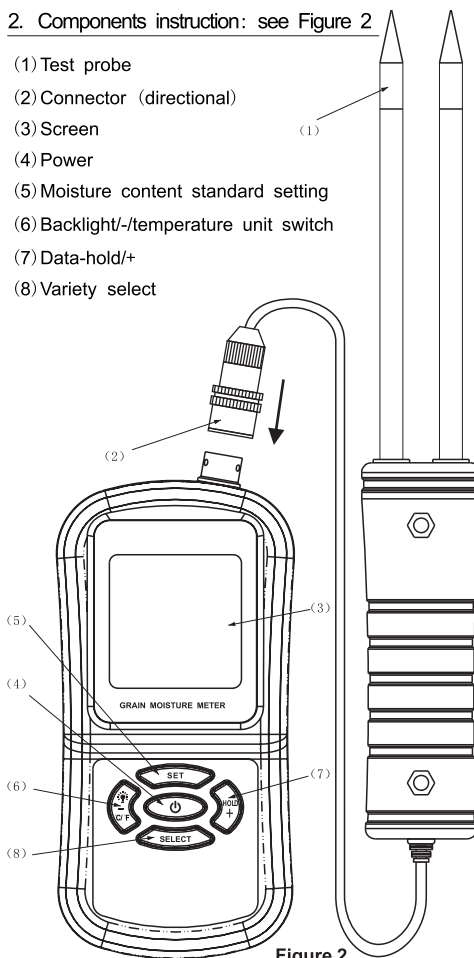

Figure 2
2. Components instruction: see Figure 2